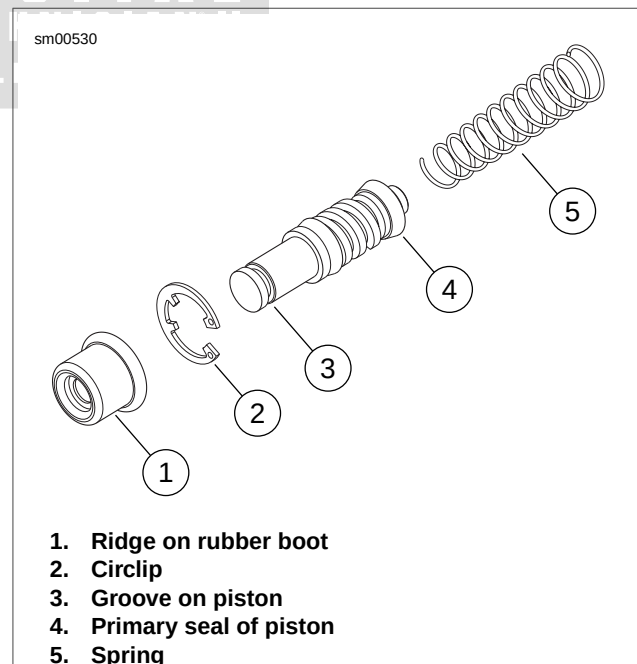

Figure 2-36. Front Master Cylinder Piston Assembly
- See Figure 2-36. Assemble **new** piston components, placing small end of spring (5) behind primary seal of piston (4).
- See Figure 2-36. Install ridge on rubber boot (1) into groove on piston (3).